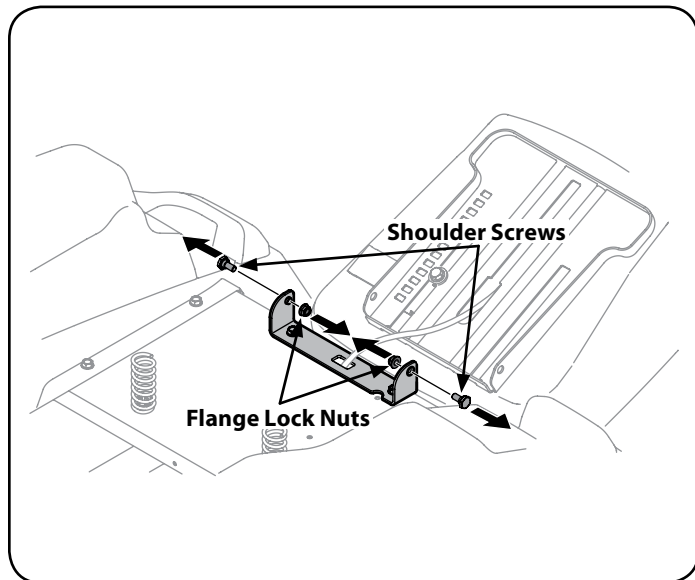

Figure 4
- Remove the two shoulder screws and flange lock nuts in the seat pan as shown in Figure 4.